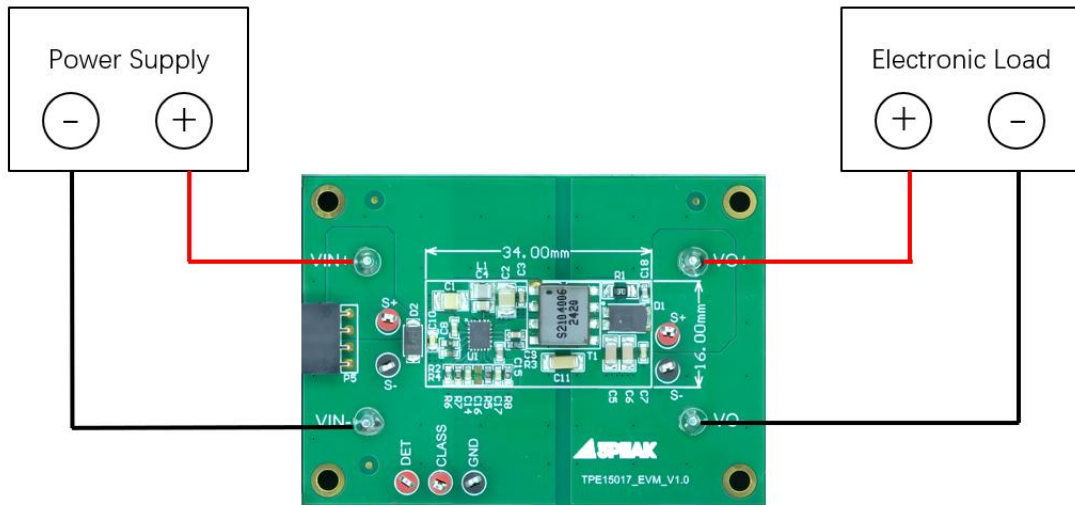

Fig.4 DC Source Supply Set-up
- Figure 4 shows the connection method using a DC source supply set-up.